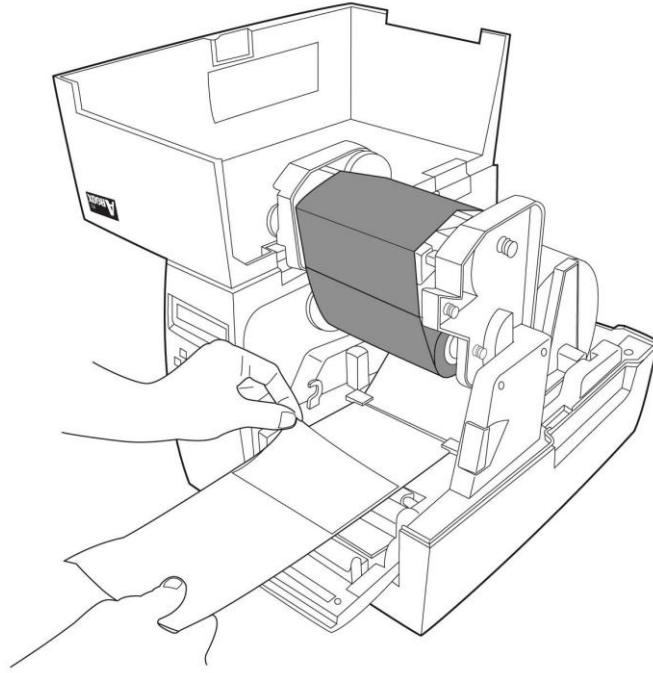

Figure 18
2. Remove approximately 6-inches of labels from the backing paper. (Figure 18)